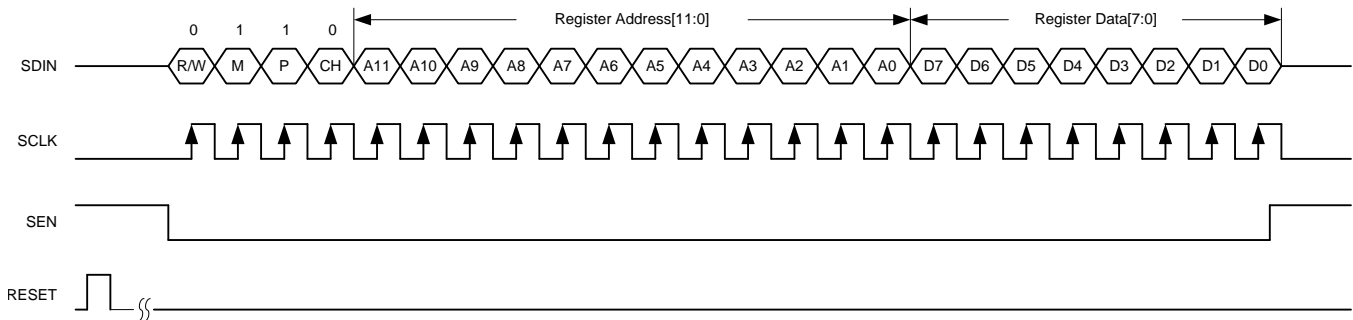

Figure 72. JESD Serial Register Write Timing Diagram
3. Set the M and P bits to 1, select channel A (CH = 0) or channel B (CH = 1), and write the register content as shown in Figure 72. When a page is selected, multiple writes into the same page can be done.